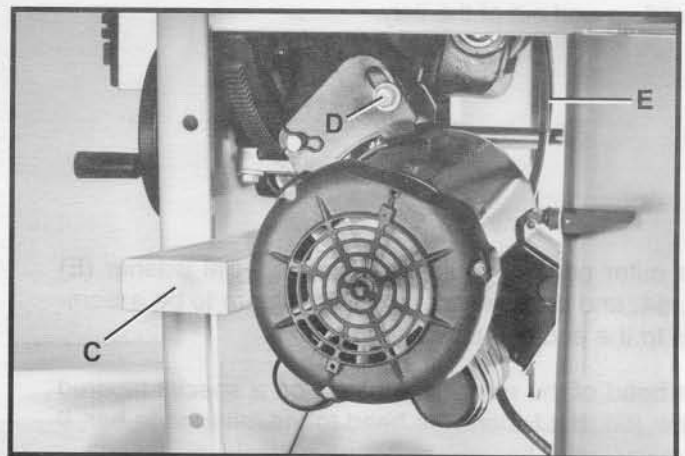
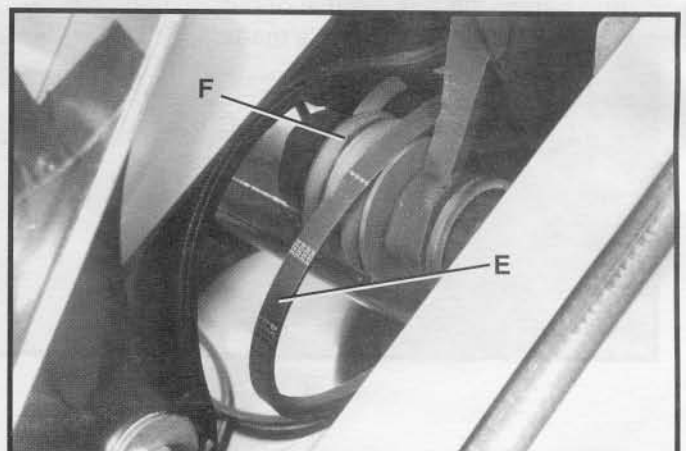

Fig. 56
Fig. 57
3. Place a block of wood (C) Fig. 56, between the motor and saw cabinet as shown. **NOTE:** It may be necessary to raise the saw arbor in order to insert the wooden block. Lower the saw arbor until the motor contacts the wood.
4. Loosen bolt (D) Fig. 56, and continue to lower the saw arbor until all tension is removed from the belts (E). Tighten bolt (D).
5. Raise the saw arbor slightly and remove the block of wood (C) Fig. 56.
6. Lower the saw arbor. Remove the belts (E) Fig. 56, one at a time from the motor pulley.
7. Remove the belts (E) Fig. 57, one at a time from the arbor pulley (F).
8. Assemble the three new belts, one at a time in the grooves of the arbor pulley (F) Fig. 57, and onto the motor pulley.
9. When the new belts are assembled on the arbor pulley (F) Fig. 57 and the motor pulley, loosen screw (D) Fig. 56, and carefully let the motor rest on the belts.
10. Correct belt tension is when there is approximately 1/4" deflection in the center span of the pulleys, using light finger pressure. After tension is applied, tighten screw (D) Fig. 56.